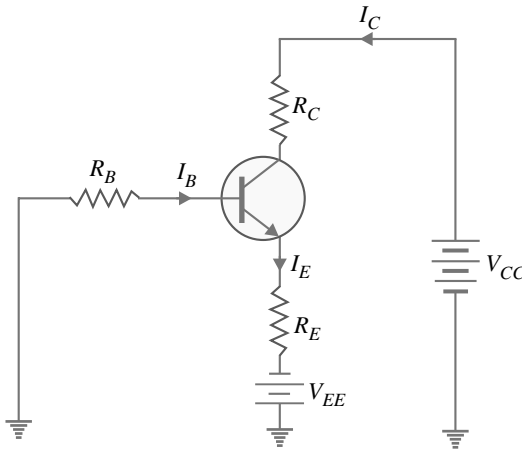
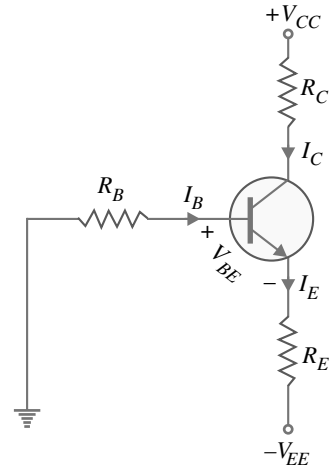

Fig. 7.16
Fig. 7.17
Fig. 7.16 shows the emitter bias circuit. This circuit differs from base-bias circuit in two important respects. First, it uses two separate d.c. voltage sources ; one positive (+  $V_{CC}$ ) and the other negative (−  $V_{EE}$ ). Normally, the two supply voltages will be equal. For example, if  $V_{CC} = + 20 \text{ V}$  (d.c.), then  $V_{EE} = - 20 \text{ V}$  (d.c.). Secondly, there is a resistor  $R_E$  in the emitter circuit.
We shall first redraw the circuit in Fig. 7.16 as it usually appears on schematic diagrams. This means deleting the battery symbols as shown in Fig. 7.17. All the information is still (See Fig. 7.17) on the diagram except that it is in condensed form. That is a negative supply voltage −  $V_{EE}$  is applied to the bottom of  $R_E$  and a positive voltage of +  $V_{CC}$  to the top of  $R_C$ .
Fig. 7.17 shows the emitter bias circuit. We shall find the  $Q$ -point values (*i.e.* d.c.  $I_C$  and d.c.  $V_{CE}$ ) for this circuit.
(i) **Collector current ( $I_C$ ).** Applying Kirchhoff's voltage law to the base-emitter circuit in Fig. 7.17, we have,
**Alternatively.** Applying Kirchhoff's voltage law to the collector side of the emitter bias circuit in Fig. 7.17 (Refer back), we have,
**Stability factor  $S$ .** We have seen above that by applying Kirchhoff's voltage law to the base-emitter circuit in Fig. 7.17, we have,